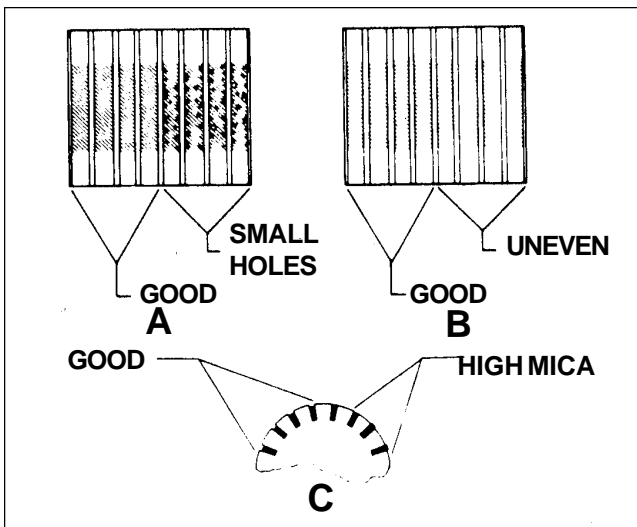

Figure 7
- 1.) Small holes in the surface of the commutator. See Figure 7 "A".
- 2.) Uneven color. Look for an even dark brown color. Clean areas or very dark areas indicate a problem. See Figure 7 "B".
- 3.) High mica. The mica insulation must be lower than the commutator bars. See Figure 7 "C".